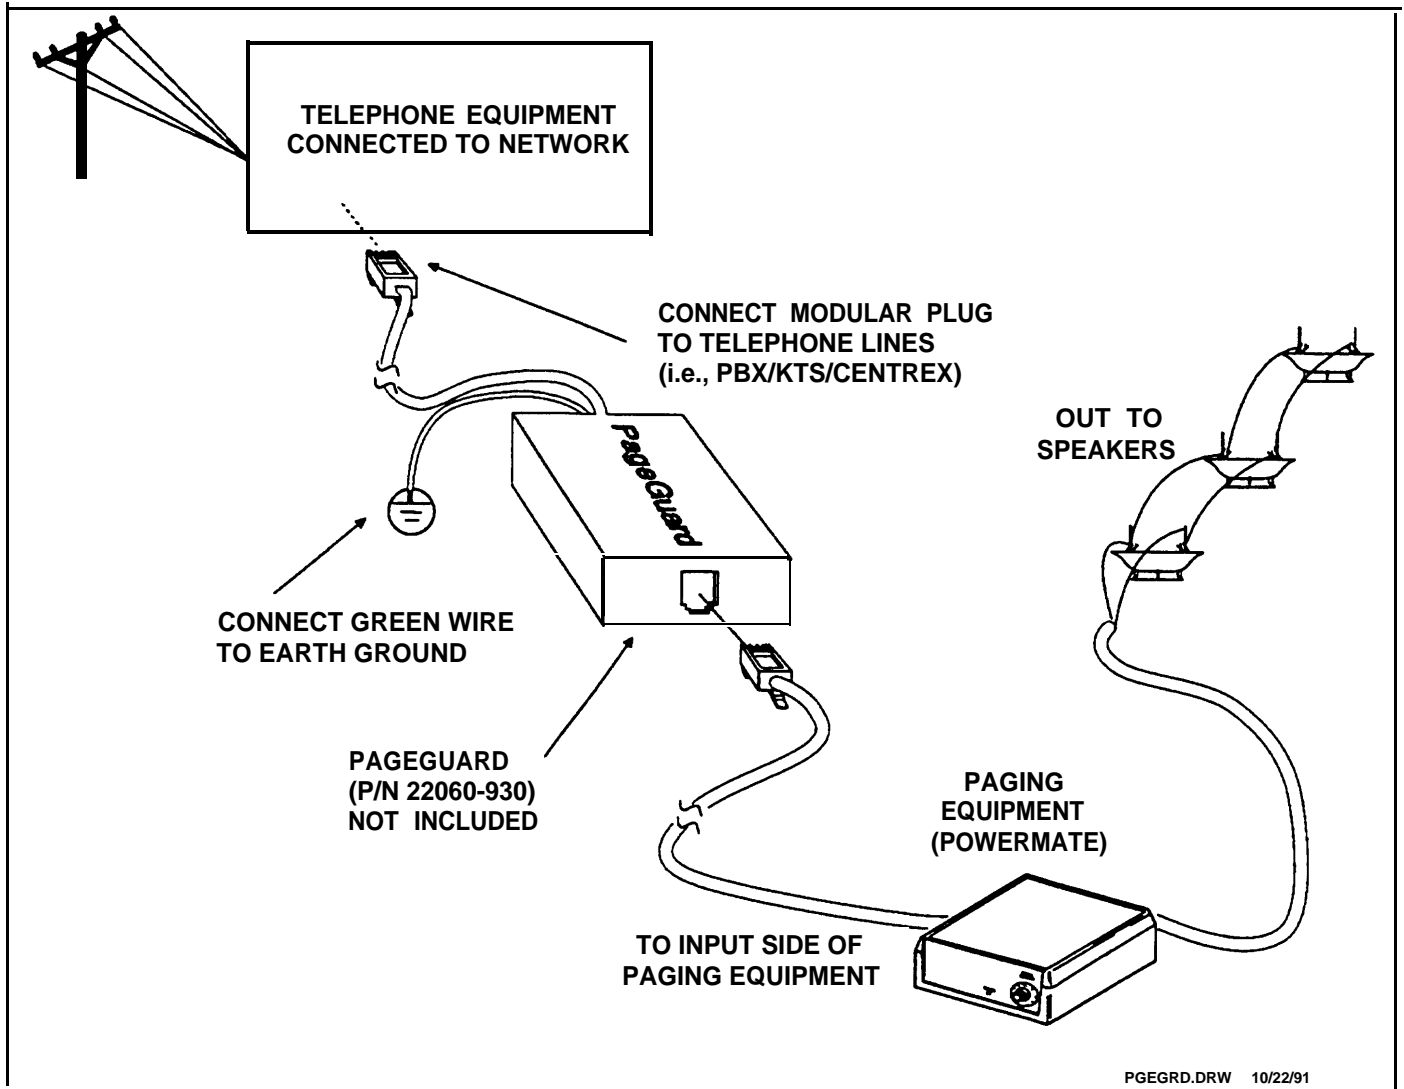

Figure C-2. PageGuard Installation
Each PagePac unit is supplied with a PageGuard protector factory-installed on the principal Tip-Ring pair. Each terminal pair on Terminal Strip “B” (see Figure C-2 of the PagePac manual) that is to be connected to any wires that go off premises must be supplied with an additional PageGuard protector.
3. Install the PageGuard modular plug to the C.O. telephone lines (see Figure C-2).